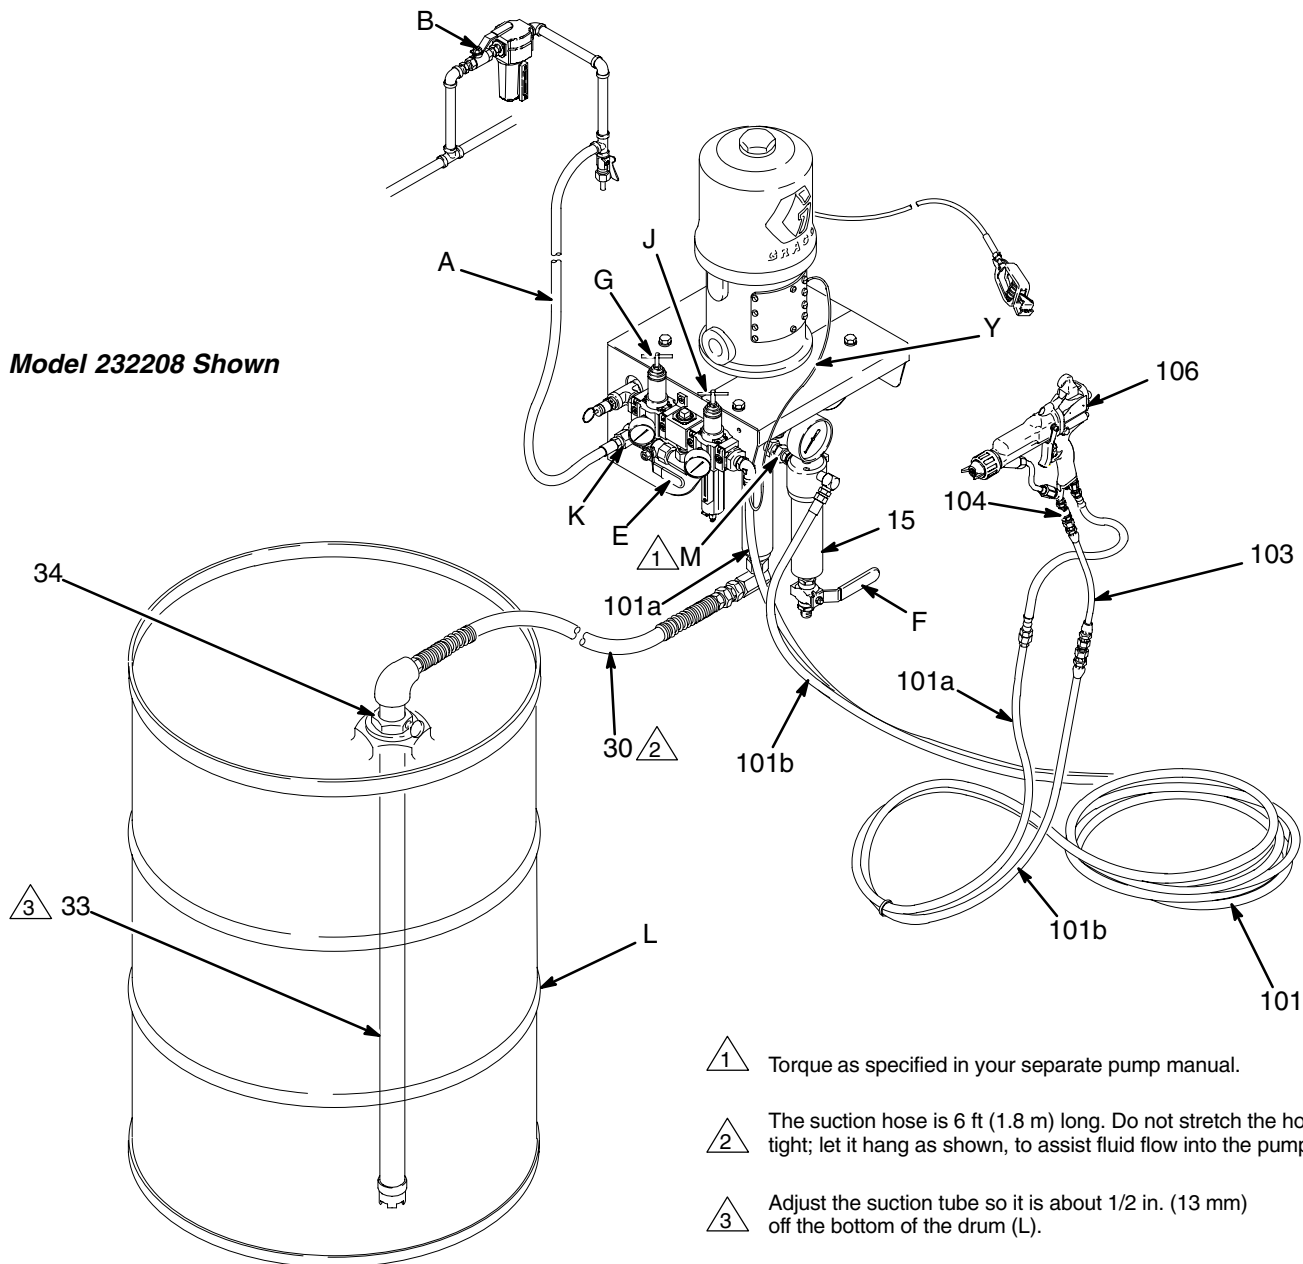

Fig. 5
3. Close the red-handled bleed-type master air valve (E, required in your system). See Fig. 5.
Before starting, fill the packing nut (M) 1/3 full with Graco Throat Seal Liquid (TSL) or compatible solvent. See Fig. 5.
The gun air filter/regulator (J, see Fig. 5) controls the air pressure to the spray gun. Air is supplied to the gun through a special electrically conductive air hose.
2. Remove the tip guard and spray tip from the gun (106). Refer to the gun manual.
3. See Fig. 5. Close the gun air filter/regulator (J), pump air regulator (G), and bleed-type air valves (B, E).
4. Close the fluid drain valve (F).
5. Connect the air line (A) to the air inlet swivel (K).
7. Position the drum (L) close to the pump. The suction hose (30) is 6 ft (1.8 m) long. Do not stretch the hose tight; let it hang as shown in Fig. 5, to assist fluid flow into the pump.
8. Place the pump suction tube (33) into the drum. On carbon steel models, screw the bung adapter (34) into the drum's bung hole. Adjust the suction tube so it is about 1/2 in. (13 mm) off the bottom of the drum, then tighten the thumbscrew.
9. Point the gun (106) into a grounded metal pail and hold the trigger open.
10. Open the bleed-type air valves (B, E) and the gun air filter/regulator (J). Slowly open the pump air regulator (G) until the pump starts.
13. If the pump fails to prime properly, open the drain valve (F). Use the drain valve as a priming valve until the fluid flows from the valve. Close the valve.